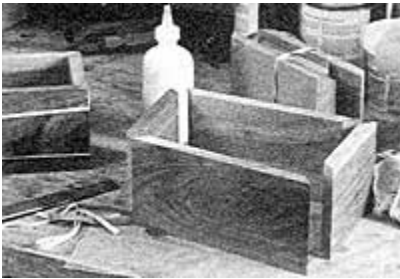

Fig. 3. Use rubber bands or pieces of inner tubes and woodworker's glue to assemble the boxes.
Step 7 Use woodworker's glue to assemble the sides of your box(es). To clamp, use large rubber bands (See Fig. 3) or pieces of an old rubber inner-tube. Once the glue has dried, carefully sand the top and bottom edges flat using your Belt Sander. Be careful not to remove more stock than necessary.